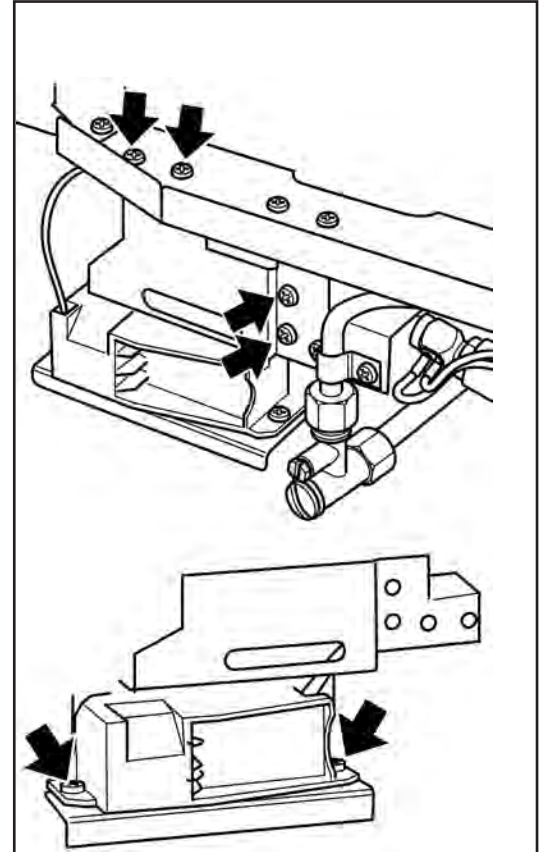

Figure 41. Removal of electronic generator
6. Remove the two fixing screws that attach the generator unit to the support bracket. The igniter generator can now be removed (See figure 41)